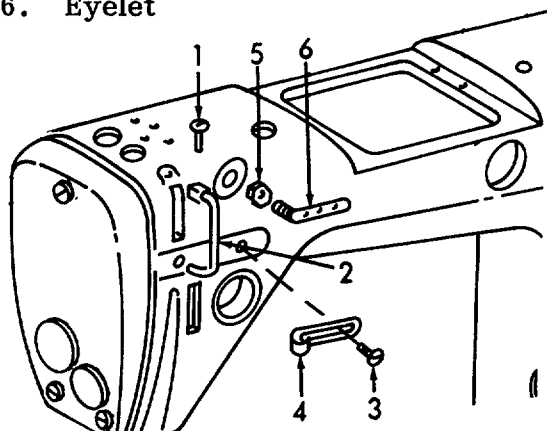
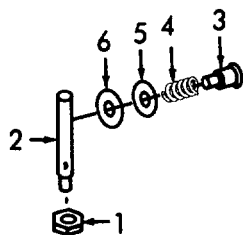

Figure 6-22. Thread Guides, Removal.
Figure 6-23. Needle Thread Guide, Disassembly.
- (3) Refer to Figure 6-22. Remove screw (1).
- (4) Remove thread take-up lever cover (2).
- (5) Remove screw (3).
- (6) Remove frame thread guide (4).
- (7) Loosen locknut (5).
- (8) Remove thread eyelet (6).
- (9) Remove locknut (5).
b. Disassembly (Refer to Figure 6-23).